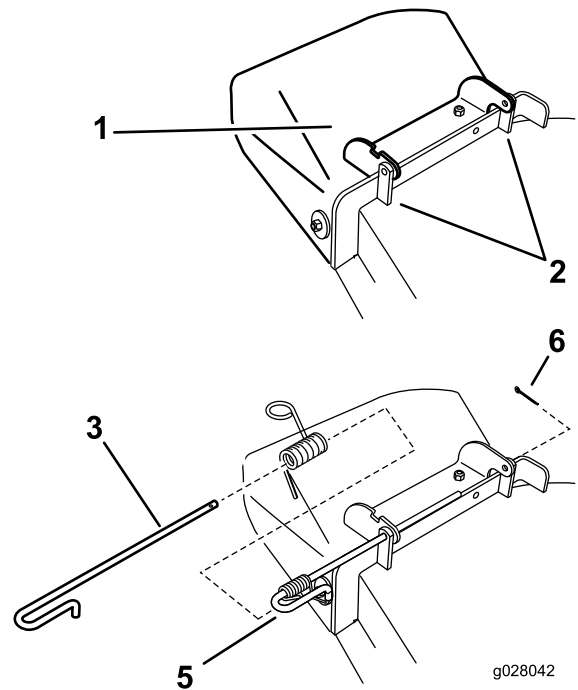

Figure 76
1. Remove the cotter pin from the end of the rod (Figure 76).
welded deck brackets, spring, and discharge deflector (Figure 76).
3. Position the new discharge deflector with the bracket ends between the welded brackets on the deck (Figure 76).
7. Install the cotter pin into the end of the rod (Figure 76).